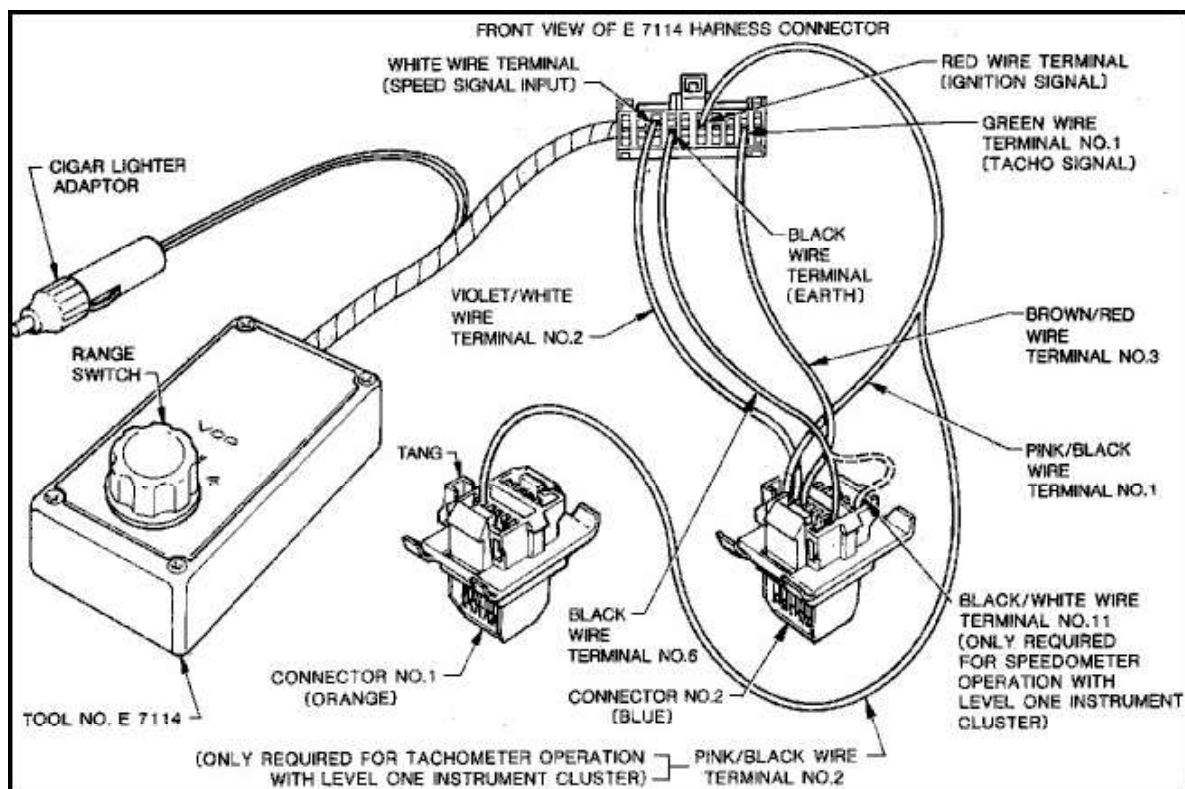

Figure 12C-65
2. Using two instrument cluster instrument connectors, attach leads together as shown in Fig. 12C-65, and then connect into the white harness connector terminals of E7114.